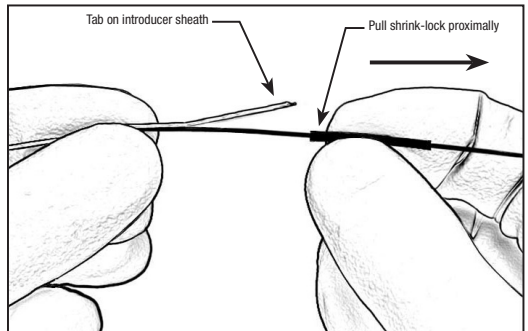

Figure 3 – Pull Shrink Lock Proximally
17. Hold the device just distal to the shrink-lock and pull the shrink-lock proximally to expose the tab on introducer sheath. See Figure 3.